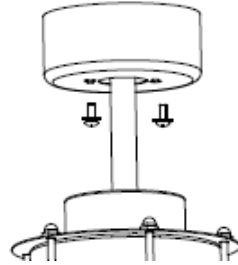

Fig. 7
- Loosen the 2 screws from the bottom of the mounting bracket. Fig. 7